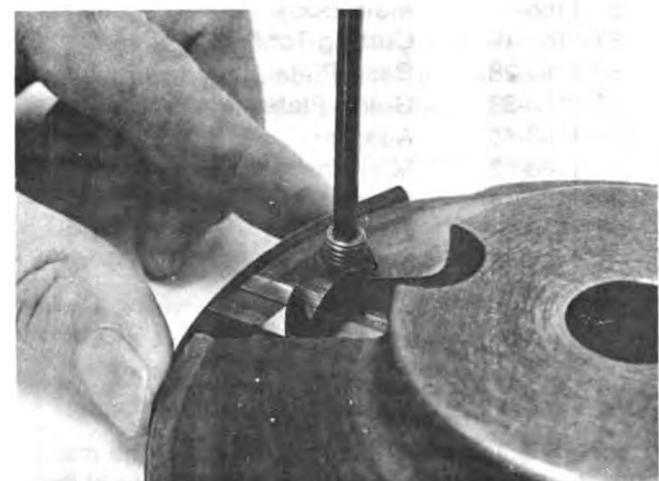

Fig. 1-14. Install The Cutting Tool.
- e. Hold a 0.010 inch [0.25 mm] thick feeler gauge around the edge of the cutter plate and over the end of the slot for the cutting tool, Fig. 1-14.